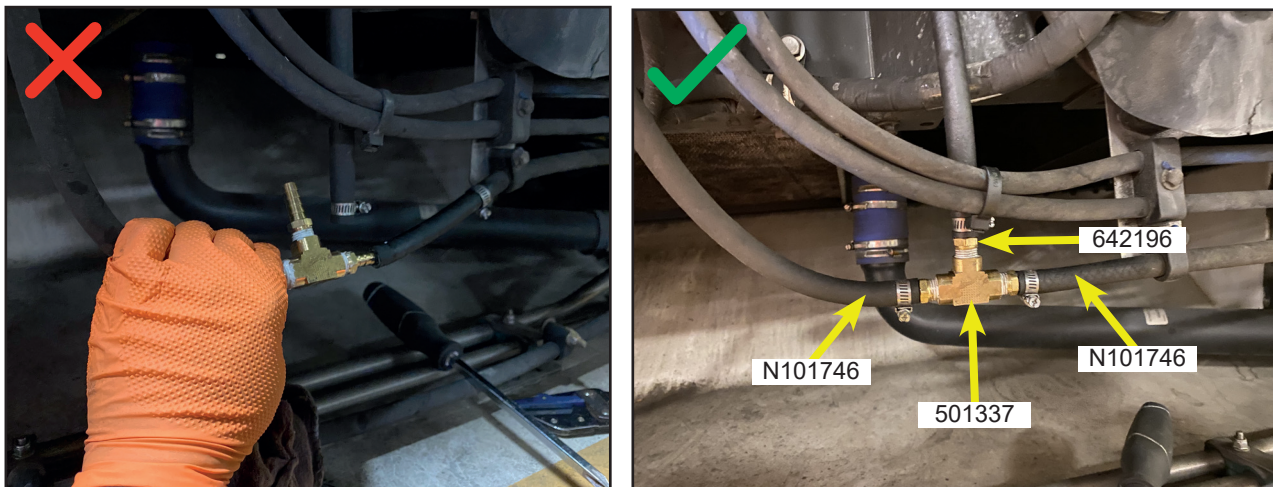

Figure 7 - Installation of T-Fitting Assembly
- 1.15. Align the hose N95062-51 with existing bottom (black) vent hose and cut to size accordingly to install the bottom T fitting 501337 with adaptors 642196 and 2x N101746. When securing the T-fitting to the hoses, the hoses must be leveled at a downwards or straight pitch. Do not allow the hose to bend upwards. Left figure not acceptable. Right figure is acceptable (see figure 7).